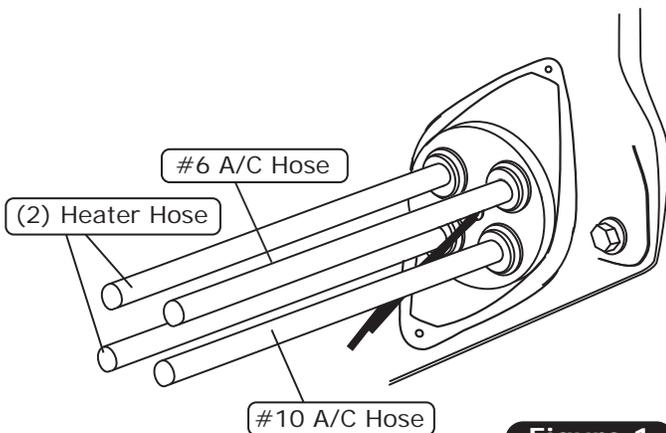

Figure 1
1. Route the A/C and heater hoses through the fresh air cap as shown in Figure 1, below.
3. Slide the fresh air cap into position, and secure it to the firewall using (2) #14 x 3/4" washer head screws (See Photo 1, below).